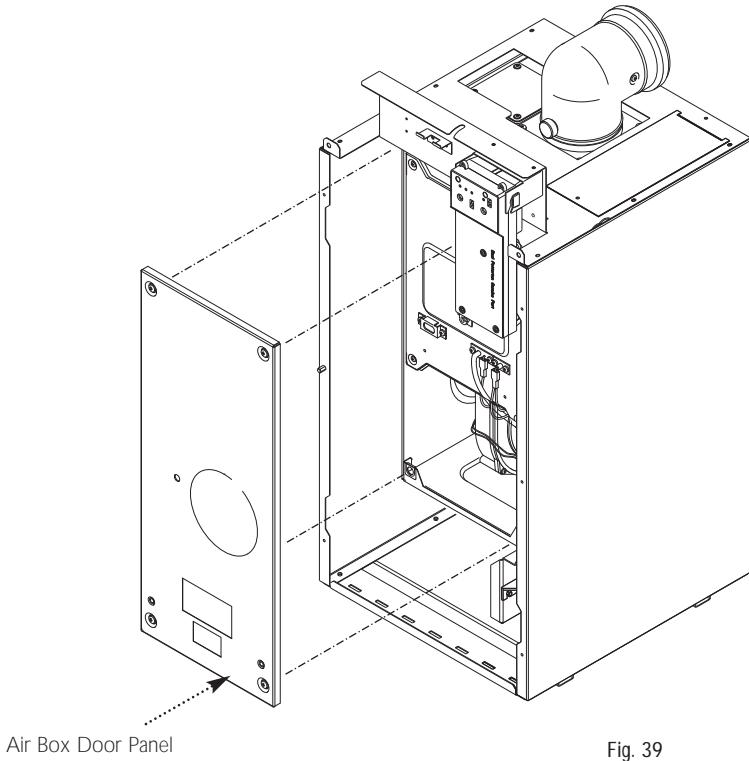

Fig. 39
3. Release the four $1/4$ turn screws securing the air box door panel and remove the panel (Fig. 39).